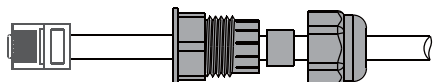

Figure 4.5-4 Remotely close the cable connection
Step 3-2 For Remote Shutdown. Run the cable through the steel plate , Then wire from pins 5 and 6. Table 4.5-1 describes the 6-pin port definition,Wiring is shown in Figure 4.5-4.